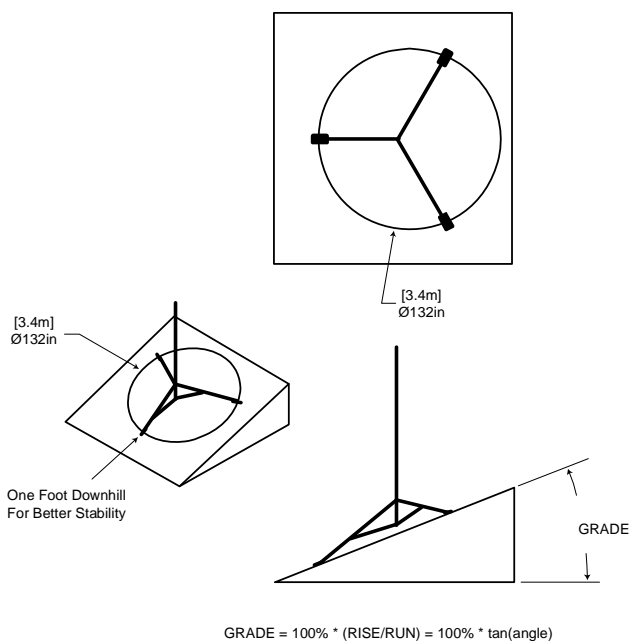

FIGURE 2-2. Comparison of one leg pointing downhill (right) versus two legs pointing downhill
- Using a 1/4-20 x 1.75" bolt and 1/2-20 nylock nut, attach a foot to each tripod leg (Figure 2-2).
Loosen the bolts on the clamp brackets. With the legs extended, orient the tripod so that one leg points downhill and the other two legs point uphill. The tripod is more stable with only one leg pointed downhill because the mast is closer to the center of the footprint (see Figure 2-2). Tighten the bolts on the clamp brackets to lock the legs in place.